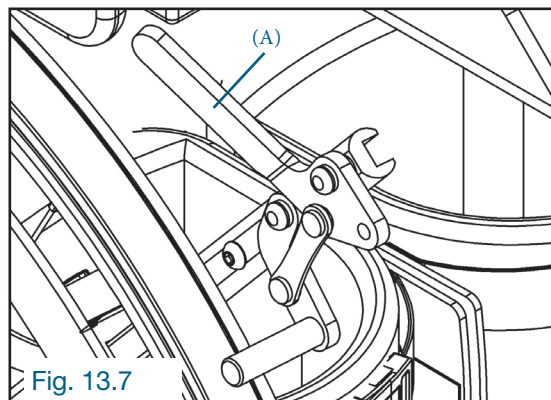

Fig. 13.7
13.7.1 ENGAGING THE LATERAL WHEEL LOCKS (Fig. 13.7)
13.7.2 RELEASING THE LATERAL WHEEL LOCKS (Fig. 13.7)